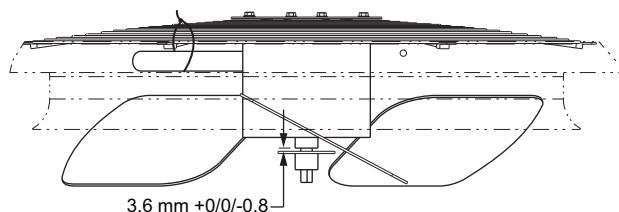

Fig. 38 — Outdoor Fan Blade Position
4. Adjust fan height as shown in Fig. 38.